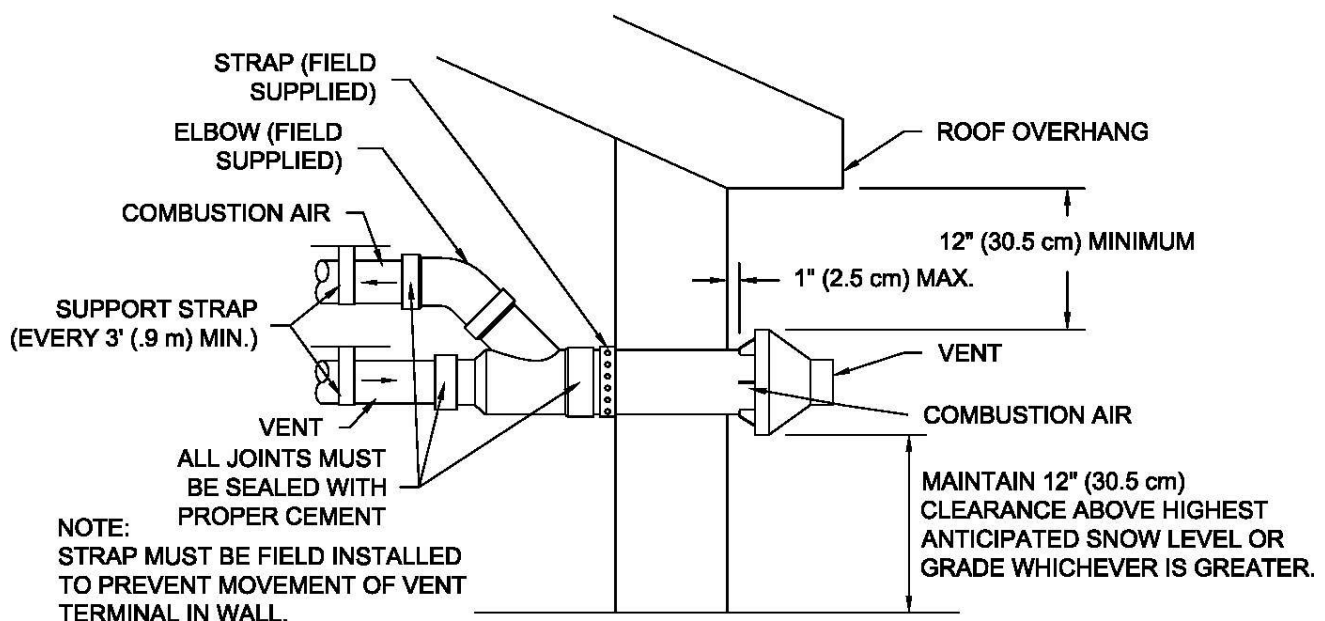

Figure 24 - Concentric Vent Side Wall Attachment
7. Secure assembly to structure as shown in Figure 23. Ensure clearances as shown in Figure 24.
8. Cement heater combustion-air and vent pipes to concentric Y fitting termination assembly. See Figure 24 for proper pipe attachment.